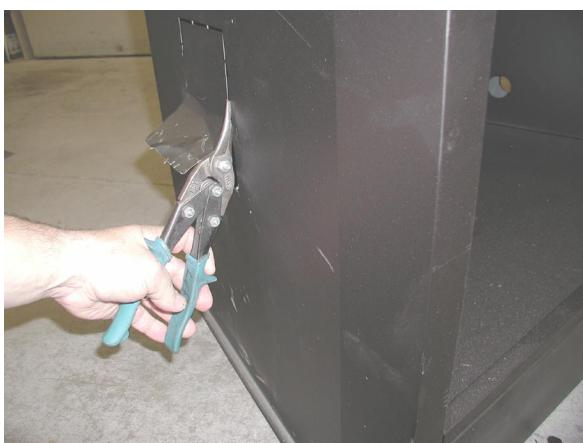

Figure 13
1. Begin by removing the rectangular cutout located on the left side of the firebox. Use gloves and sheet metal snips to create the opening for the Air Door assembly to install into. See **Figures 13 and 14**.